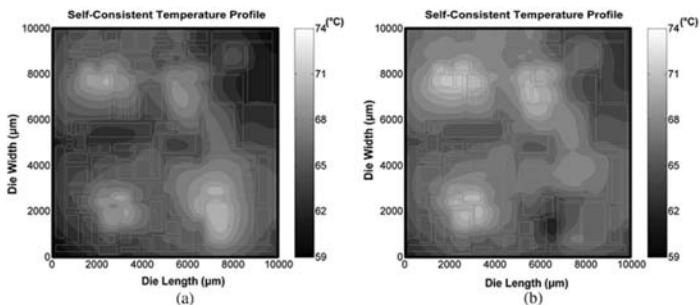

Figure 5. Topical Temperature Difference for Global (5a) and Spot Cooling (5b) of a 10 x 10 mm Test Chip.12
Figure 5. The data in the graph above, from Lasertec's WASVI TSV300-IR tool, shows the repeatability of depth measurements made on 1 and 5 micron wide, dense and isolated TSVs
**Figure 5** shows the effect of applying global and localized cooling strategies on hot spot management. As shown in **Figure 5a**, a lower junction-to-ambient thermal resistance ( $\theta_{ja}$ ) obtained by applying global cooling (through better interface material, higher cooling efficiency, etc.) reduces the maximum junction temperature. However, on-chip hot spots and thermal gradients still remain. On the other hand, localized cooling solutions such as local spray cooling and thin-film thermoelectric coolers can be applied to eliminate the hot spots. For example, if a thin-film thermoelectric cooler is placed on the backside of the wafer below the location of the bottom-right hot spot, it can effectively eliminate the targeted hot spot as shown in **Figure 5b**.